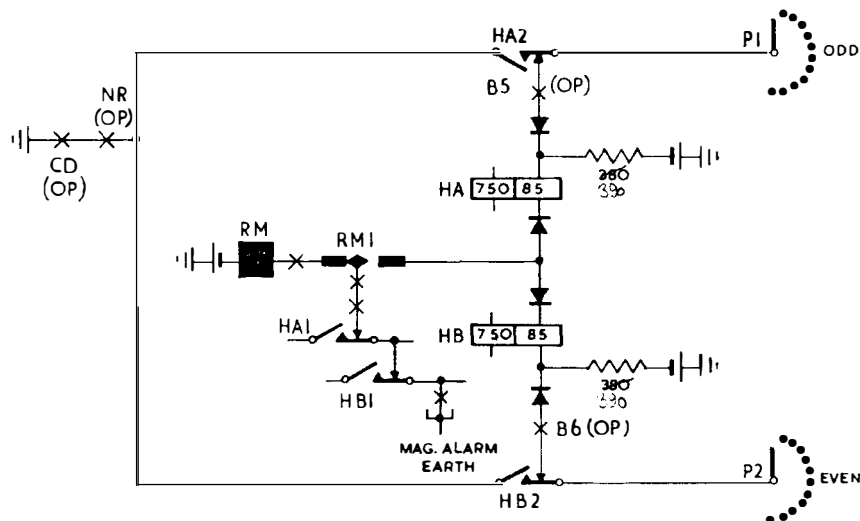

FIG. 17. CUT-DRIVE PRINCIPLE - SE.50 SELECTOR.
**4.6 CUT-DRIVE PRINCIPLE.** When NR1 and CD3 operate at the first rotary step, a self-interrupted rotary drive circuit from the magnet alarm earth via HB1 and HA1 contacts is established. The rotary interrupter springs operate when the rotary magnet armature is almost fully operated and restore when the magnet is almost fully released. Each time RM1 springs are operated, the magnet alarm earth is extended to the 85 ohm windings of both HA and HB relays. The opposite side of each winding has a negative potential connected and tests via the P1 and P2 wipers the condition on the private contacts. While both odd and even private contacts are busy, the busying earth potential shunts the HA and HB relays and prevents their operation. The drive circuit is maintained and when the interrupter springs restore the rotary magnet is operated and steps the wipers to the next contact. The drive continues until a free outlet is found. On a free outlet there is no shunting earth and HA or HB relay (or both) operates from the magnet alarm earth to negative potential via a 390 ohm resistor. The rotary drive circuit is "cut" at either HA1 or HB1 (Fig. 17). Earth from CD7 operated is extended via HA2 or HB2 to guard the seized outlet.